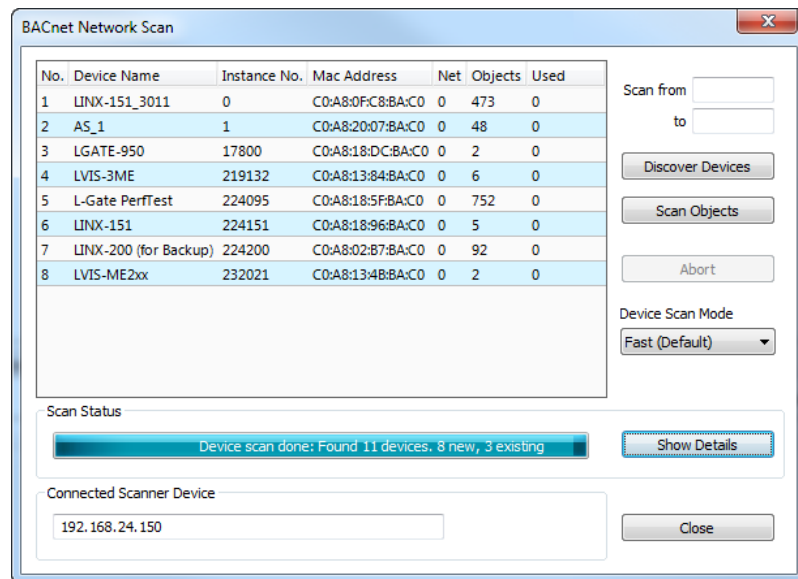

Figure 106: BACnet network scan dialog.
3. Right-click on that folder and select **Scan BACnet Network...**. This opens the BACnet Network Scan dialog as shown in Figure 106.